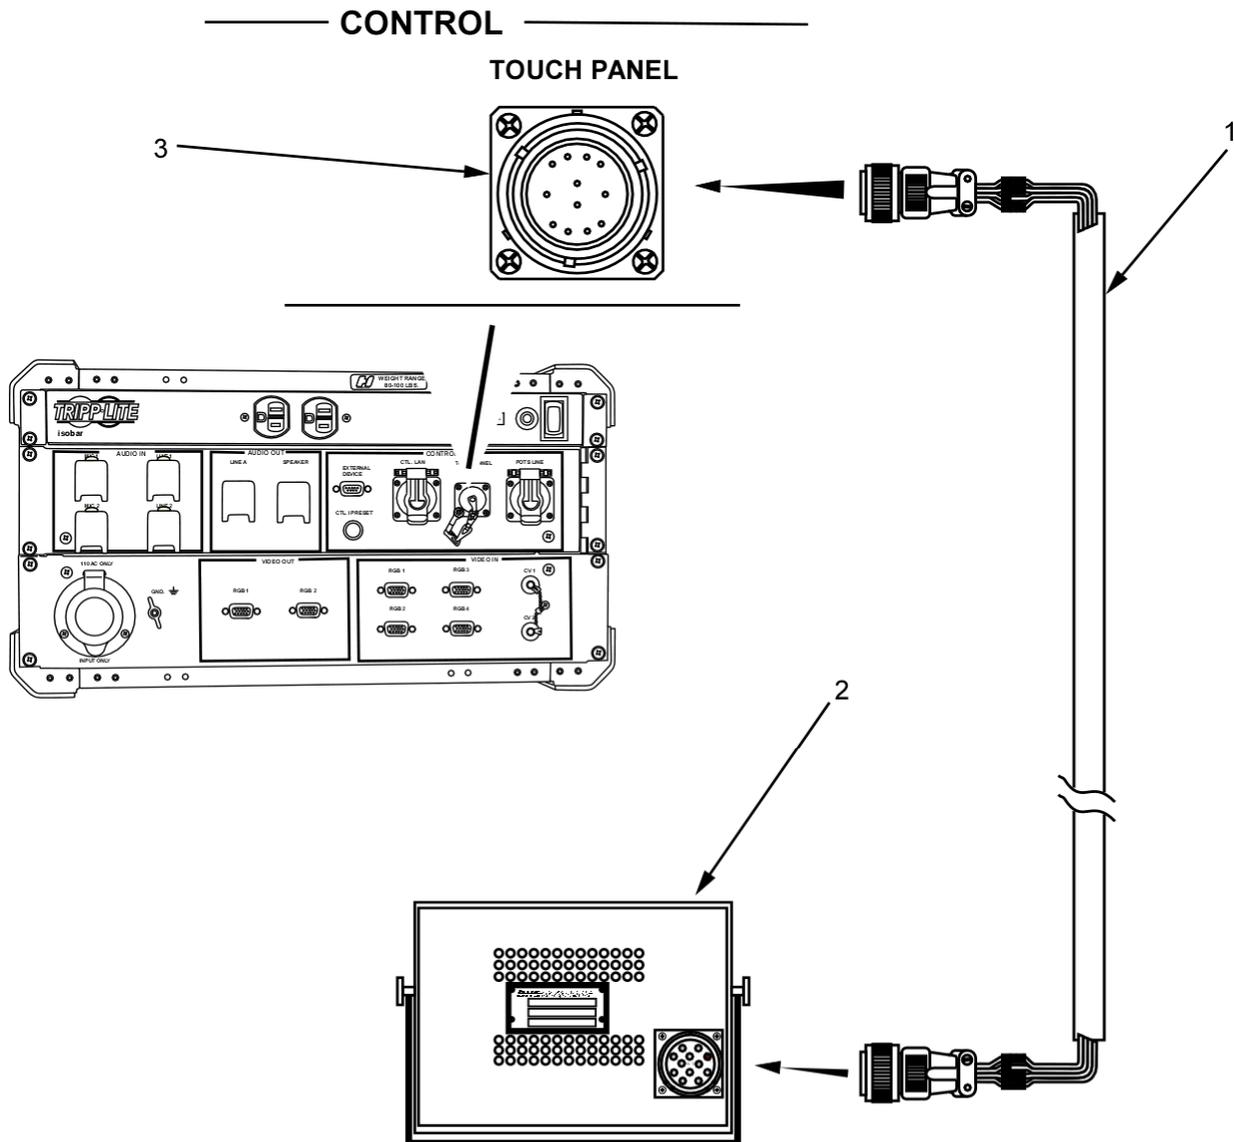

Figure 3. Control Panel Connector and Cable Connection for Touch Panel.
10. Remove the touch panel (Figure 3, Item 2) from the ancillary equipment case and position it at the operator's station.
11. Unwind the power cable (Figure 3, Item 1) and route to the AVCS (MINI) so that the cable does not interfere with traffic flow in the operations area.
12. Remove dust cover from the touch panel connector (Figure 3, Item 3) on the rear of the AVCS (MINI).